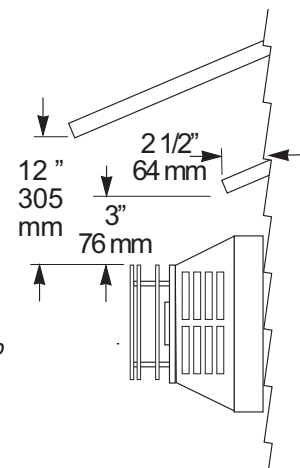

Figure 5.3
- **A horizontal termination cap must maintain a 3 inch clearance to any overhead combustible materials that project 2 1/2 inches or less.** Projections exceeding 2 1/2 inches require a minimum 12 inch clearance to the edge of the vent termination. See fig. 5.3.